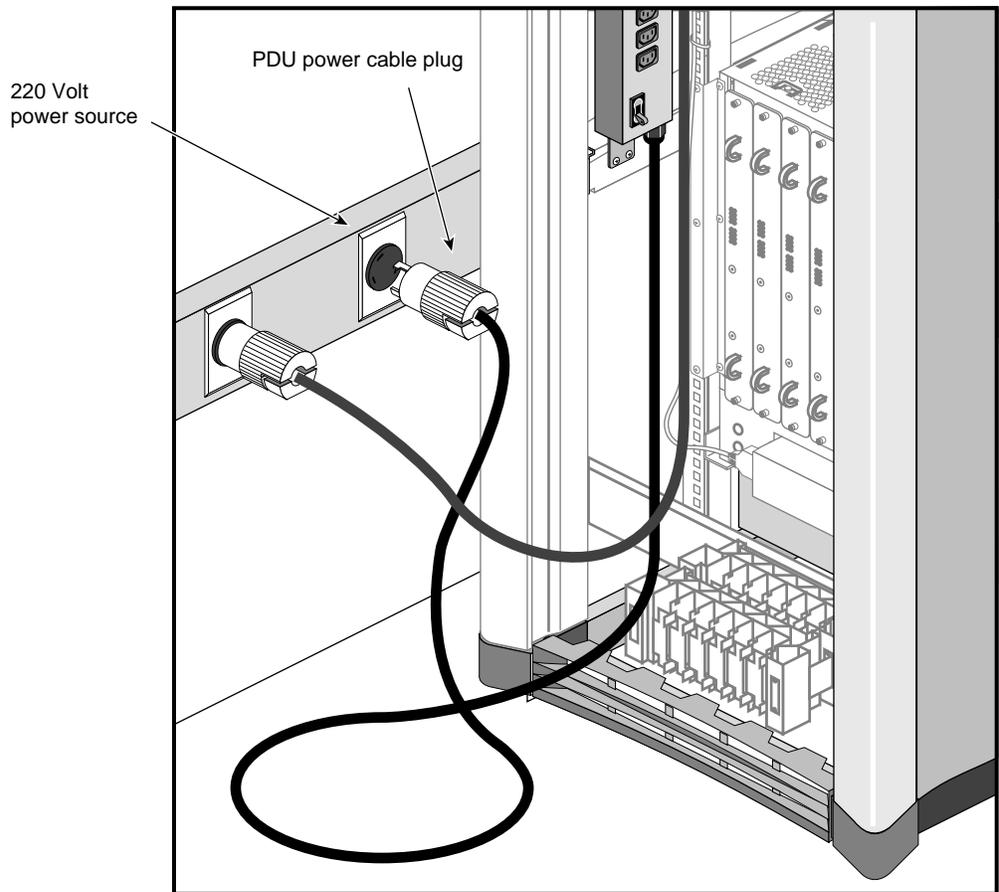

Figure 4-4 Connecting the PDU Power Cable
5. Insert the power distribution unit's (PDU's) power cable into the 220-240 VAC wall receptacle (see Figure 4-4). The power receptacles used for the graphics module and PDU should be sourced and grounded from the same breaker box. For additional information on this topic, see the *Site Preparation for Origin Family and Onyx2* manual (P/N 007-3452-001 or later version).